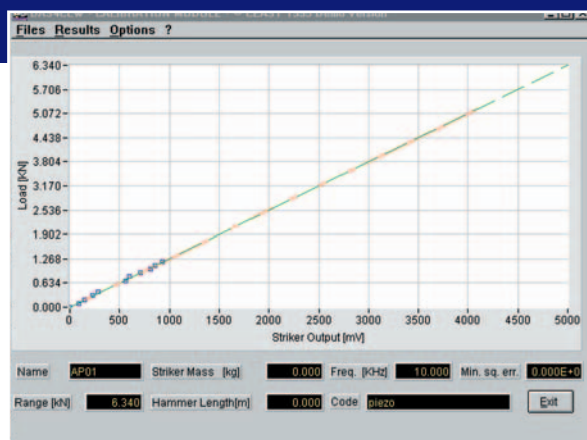

Fig. 11 Instrumented striker calibration curve
- Visualization of the calibration curves **Fig. 11**